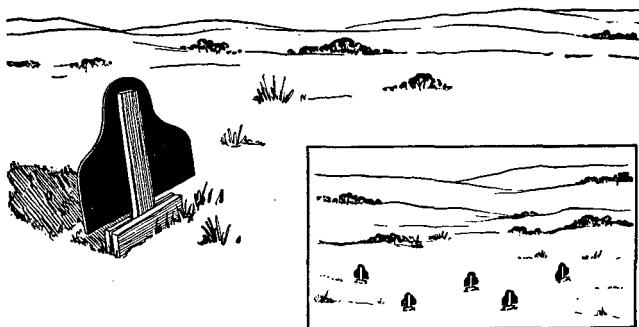

Figure 139. A method of setting up targets to represent skirmishers.
e. In the field, targets should be placed in locations that would be used by an intelligent enemy. They should not be prominently exposed nor should they be in a regular line (figs. 139 and 140). Targets should vary in size and in degree of concealment. The exposure of surprise targets, kept out of sight at the beginning of an exercise, may be indicated by firing blank ammunition or by using other noise- or smoke-producing